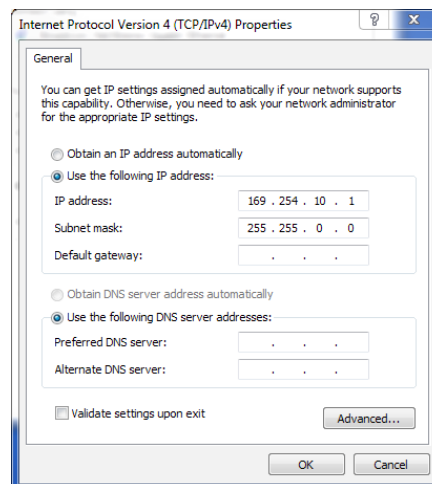

Figure 16 Connecting Directly to Computer Ethernet Port
1. Go to the computer's network setting and change the IP address and Subnet mask of the network interface controller (NIC) card you are connecting to as shown in Figure 16.